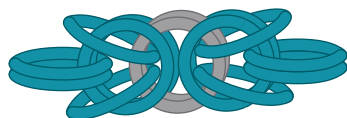

FIG. 1
1. Make a segment of Byzantine chain using 14 jump rings, following the instructions on page 32 (**FIG. 1**).